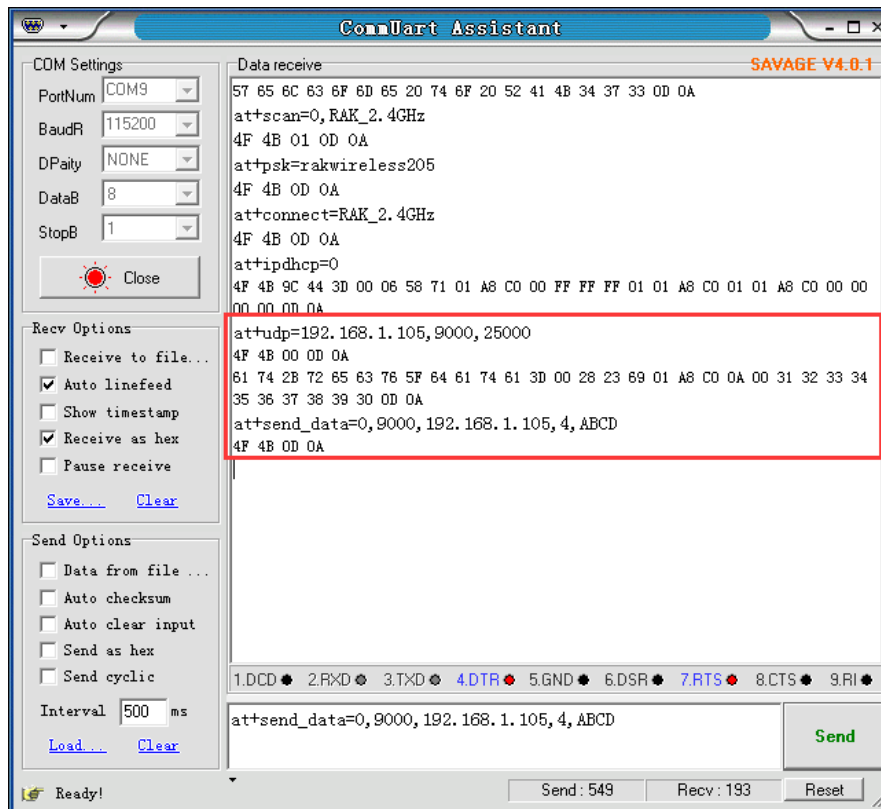

Figure 2-4 The module transmits and receives data
4. UDP Client sends character string to the UDP Sever, that is, to send data "ABCD" from the serial port to the TCP/UDP test tool (Figure 2-4).